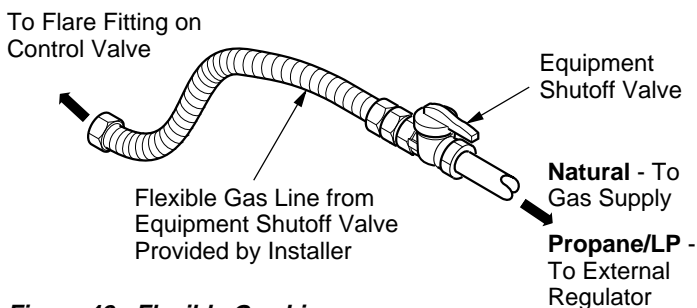

Figure 42 - Flexible Gas Line
2. Route flexible gas line (provided by installer, see Figure 42) from equipment shutoff valve to burner system. Route flexible gas supply line and attach to valve.